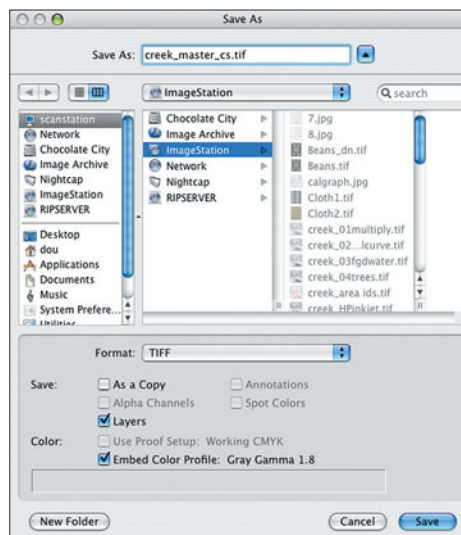

Figure 7.44 The appendage “_cs” to the file name indicates that capture sharpening has been applied. Note that layers will be saved with the master file.
6. Save a master image from which all derivatives will be produced (see Figure 7.44).